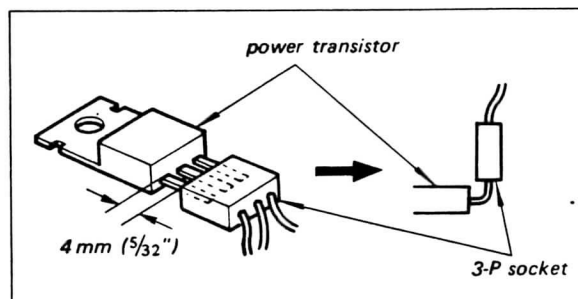

Fig. 2-6. Power transistor replacement
6. Bend the legs of the transistor by 90° at 4 mm ($\frac{5}{32}$ ") from their base as shown in Fig. 2-6.